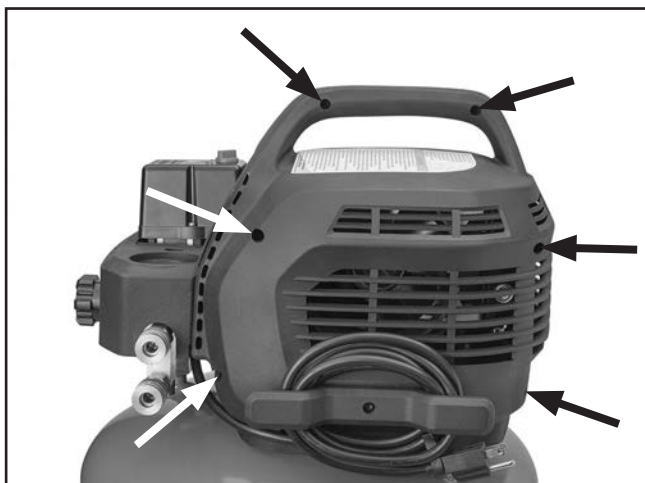

Figure 27. Locations of shroud tap screws.
6. Remove (6) tap screws at locations shown in **Figure 27** to remove motor/pump shroud.